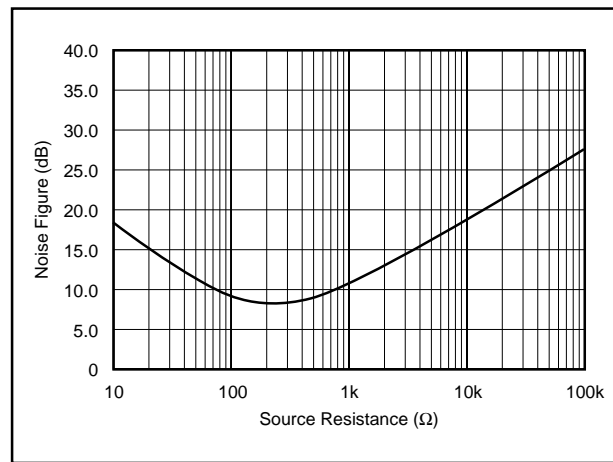

FIGURE 9. Noise Figure vs Source Resistance.
The OPA2658's voltage and current noise spectral densities are specified in the Typical Performance Curves. For RF applications, however, Noise Figure (NF) is often the preferred noise specification since it allows system noise performance to be more easily calculated. The OPA2658's Noise Figure vs Source Resistance is shown in Figure 9.